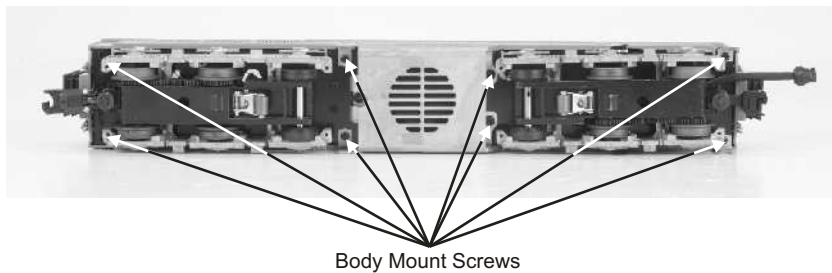

Figure 3
1. Unscrew the body mount screws as shown in Figure 3 and remove the body shell from the chassis.